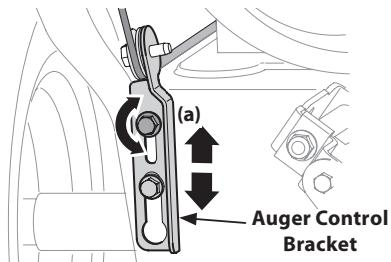
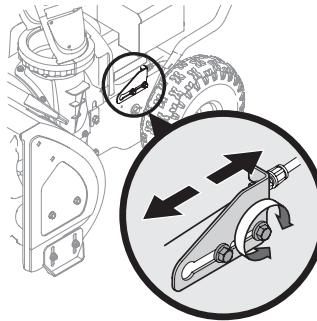

Figure 2-56
Figure 2-57
- Allow auger to remain engaged for approximately ten (10) seconds before releasing auger control lever. Repeat this several times.
- To readjust the auger control cable, loosen upper hex screw (a) on all on units except the E-Z Chute™ unit auger control bracket. See Figure 2-56.
- On E-Z Chute™ models, loosen the rear hex screw on the auger control bracket. See Figure 2-57.
- Position bracket upward on all units except the E-Z Chute™, push the adjustment bracket forward on those units to provide more slack (or downward/rearward to increase cable tension). See Figure 2-56 or Figure 2-57 depending on your unit.